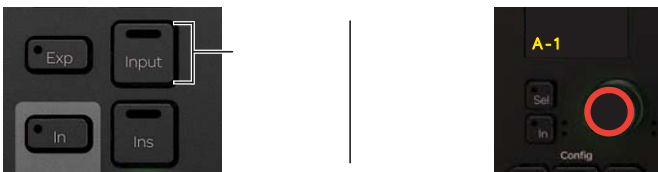

Figure 62. Input switch on Process Module (at left) and top level input knob set (at right)
- 1 In the strip for the desired track, press **Input** on the Process module (see Figure 62, left image). The first knob in the Knob Module shows the current input assignment for the track (see Figure 62, right image). If no Knob Module is present for that strip, the current assignment appears in the Process Module encoder display.